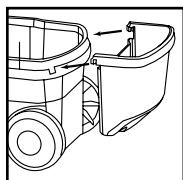

FIGURE 13
18. With rear of tank facing you, take accessory basket and position with tabs facing rear of tank. **FIGURE 13.**